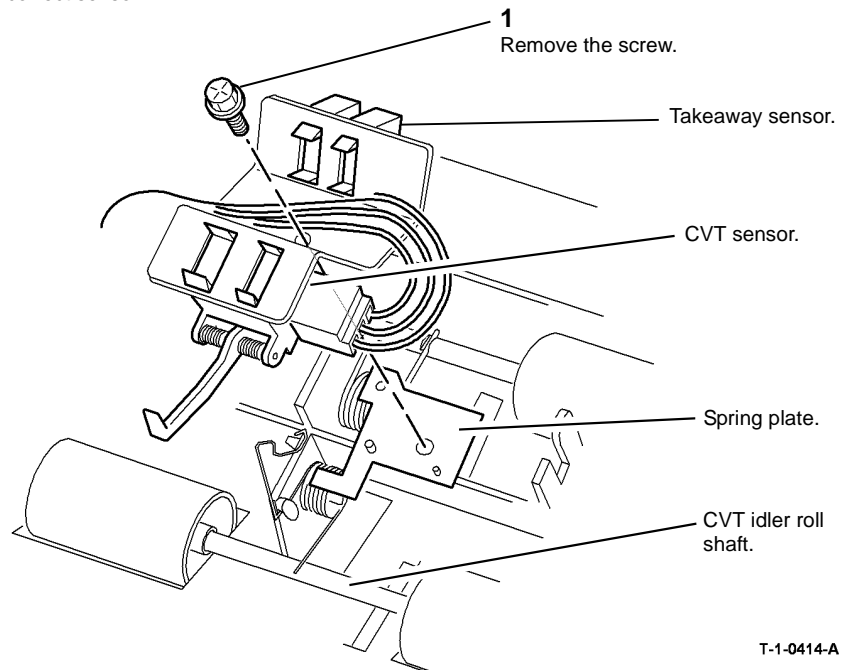
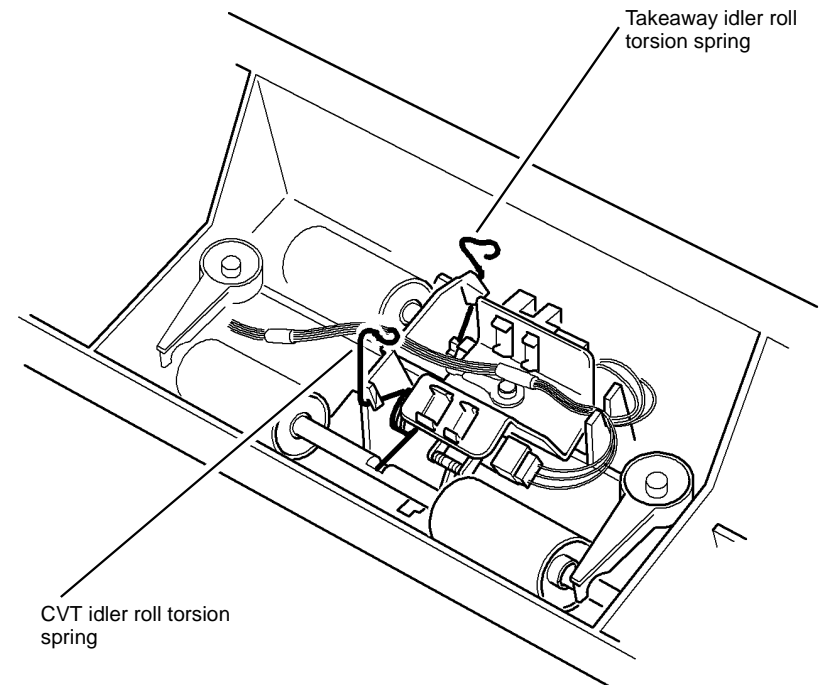

Figure 1 Takeaway and CVT sensors
Figure 2 Torsion springs
2. Remove the takeaway or CVT sensor, Figure 1.
The replacement is the reverse of the removal procedure. Make sure the spring plate and idler roll torsion springs are in the correct position. Also make sure that the CVT sensor actuator is in the correct position below the CVT roll and the idler shaft. Refer to Figure 1 and Figure 2. Then install the top cover assembly,